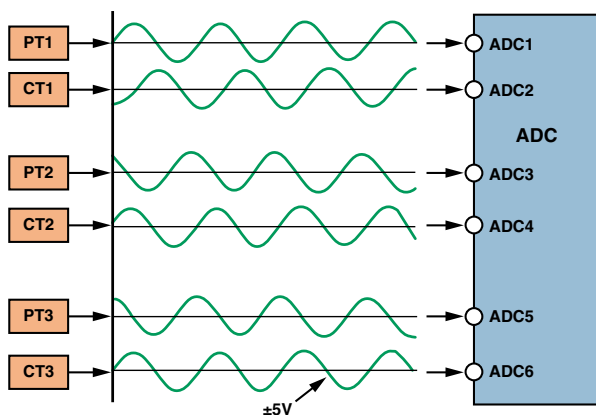

Figure 1. Waveforms in a typical 3-phase system.
Figure 1 shows waveforms in a typical 3-phase measurement system. Each power phase is represented by a *current transformer* (CT) and a *voltage transformer* (PT). The complete system comprises three such pairs. The average power in the system at any instant is calculated by rapidly taking a number of samples of the output of each transformer, performing a discrete Fourier transform (DFT) on the sampled data, and performing the necessary multiplications and summations.